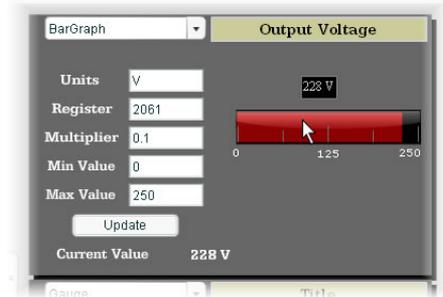

Figure 59: BarGraph
**BarGraph:** Refer to Figure 59. This type of meter implements a linear bar graph display format. Hovering the mouse pointer over the red portion of the graph pops up a tooltip which displays the current indicated value and units.